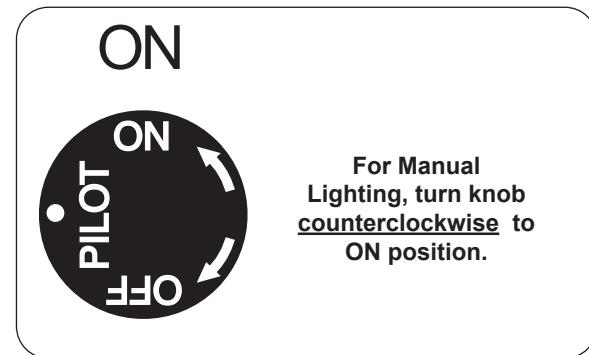

Fig. 31-3 Control knob detail (ON)
- Turn the gas control knob counterclockwise to **ON** (Fig. 31-3) to ignite the burner. The valve will open and the burner will light.